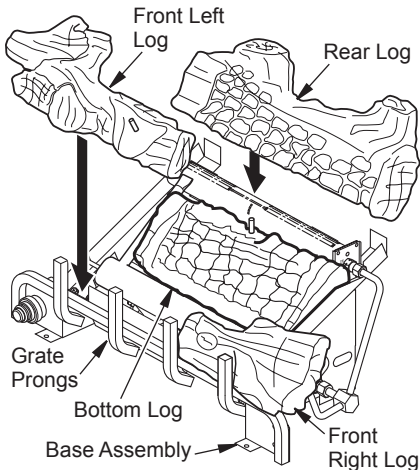

Figure 18 - Installing Log Set
1. Place bottom log in center of the base assembly as shown in Figure 18.
2. Rest rear log in back corner sections of base assembly as shown in Figure 18. Make sure log is completely vertical and not leaning in toward burner where flame will touch the log.
3. Position front right log against right side of grate prongs (see Figure 18).
4. Position front left log against left side of grate prongs (see Figure 18).